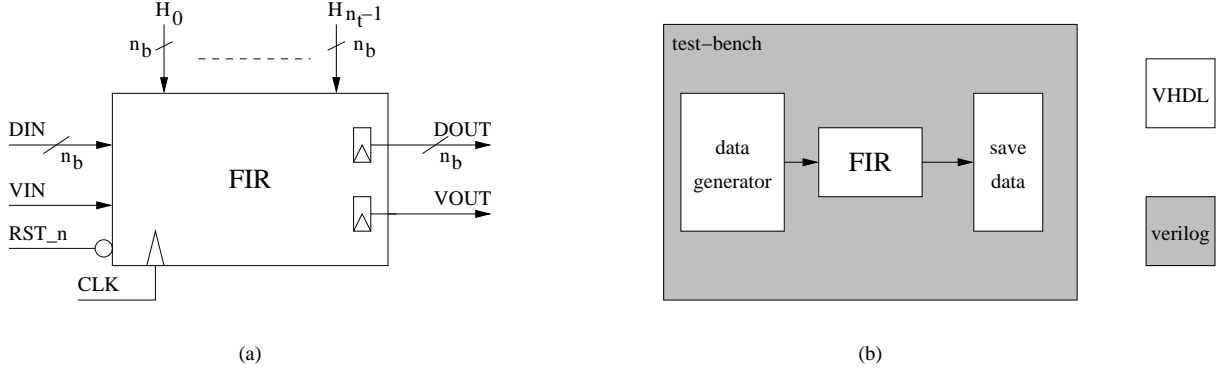

Figure 1
The filter interface is show in Fig. 1 (a): the samples (DIN) enter one each clock cycle with a validation signal (VIN) into a shift-register. When $VIN='1'$ a new sample is loaded and the other ones are shifted into the shift-register. The shift-register contains n_t samples. The samples in the shift-register (x_i) are multiplied by the filter taps (H_j) to obtain:
The implementation of (4) must take into account the n_p parameter. The output $DOUT$ contains the result of the filtering (y) and $VOUT$ is a validation signal: $VOUT='1'$ when $DOUT$ is ready. **Note:** the output of the FIR must be produced by registers, these registers **are not** part of the pipeline. Samples and taps are represented as 2-complement normalized-fixed-point values: the weight of the most significant bit is -2^0 , the weight of the least significant bit is 2^{-n_b+1} . Finally, prepare a hierarchical test-bench, where the signal generation is implemented in VHDL, whereas the top of the hierarchy is a verilog file (see Fig. 1 (b)).